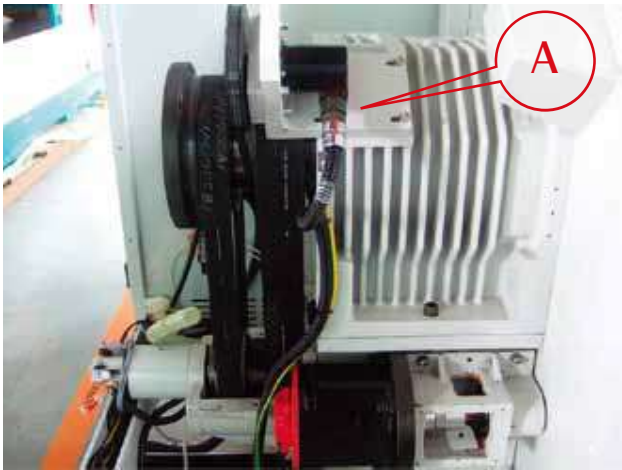

Fig. 1
- Step4. Disassemble the cable on encode by hand (see A in Fig. 1).